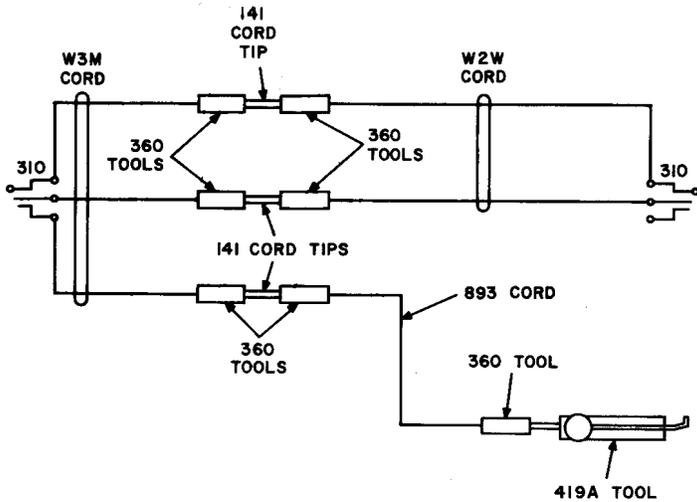

Fig. 1—Test Cord Assembly
2.14 Test cord assembly shown in Fig. 1, consisting of a W3M cord, 6 feet long, equipped with a 310 plug and three 360 tools (3W4A cord); a W2W cord, 6 feet long, equipped with a 310 plug and two 360 tools (2W17A cord); an 893 cord, 6 feet long, with 360 tools at each end (1W13B cord); a 419A tool and three 141 cord tips, for use when connecting test set to line finder commutator and test jack when test jack is not located on line finder.